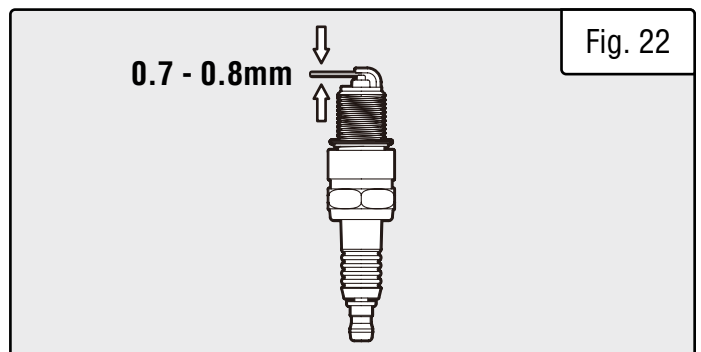

Fig. 22
4. Measure the plug gap with a wire gauge. The gap should be **0.7 - 0.8mm (0.028 - 0.031 in.)** (Fig. 22).